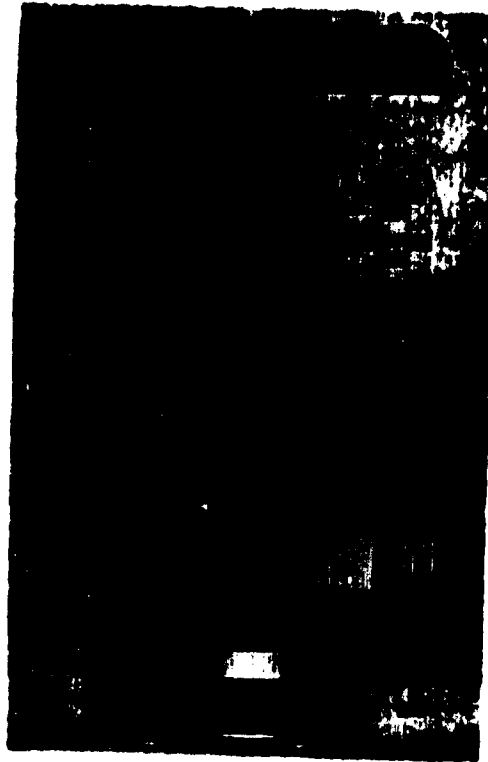

Fig 1-34. Angle valve (cutaway view).
- Angle valve:** The angle valve is basically a globe valve with the inlet and outlet at 90° to each other. The angle valve controls the flow and changes the direction of a line. Figure 1-34 shows an angle valve.